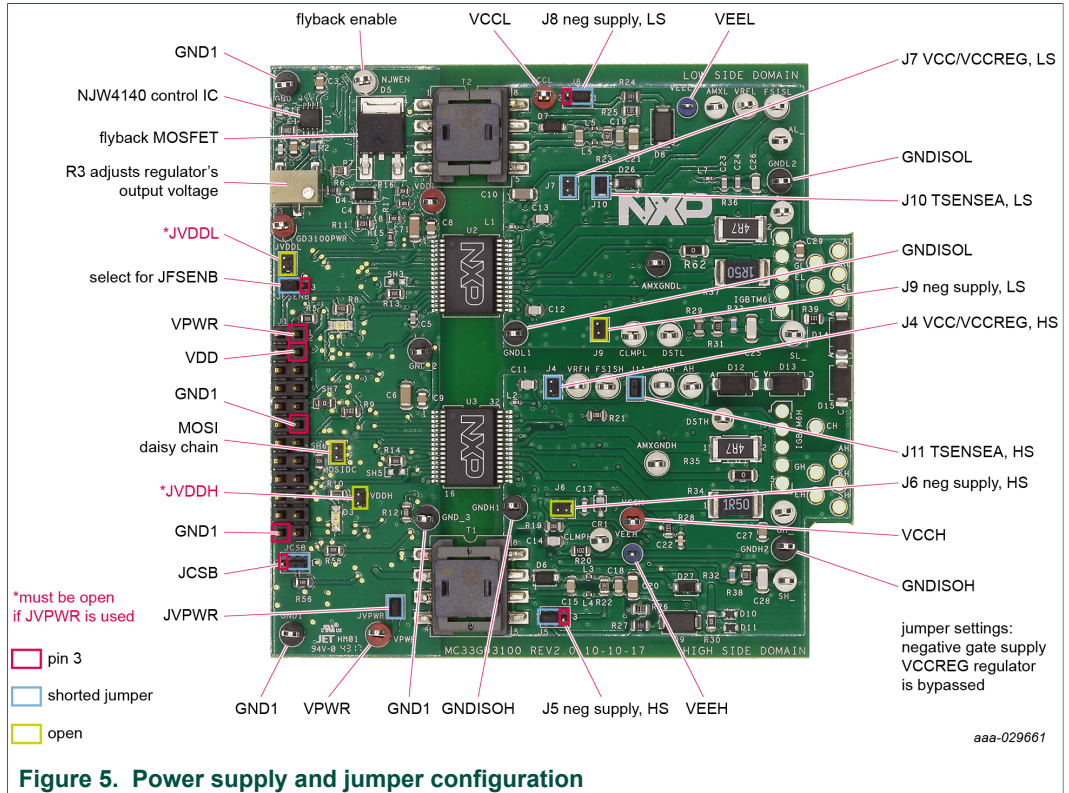
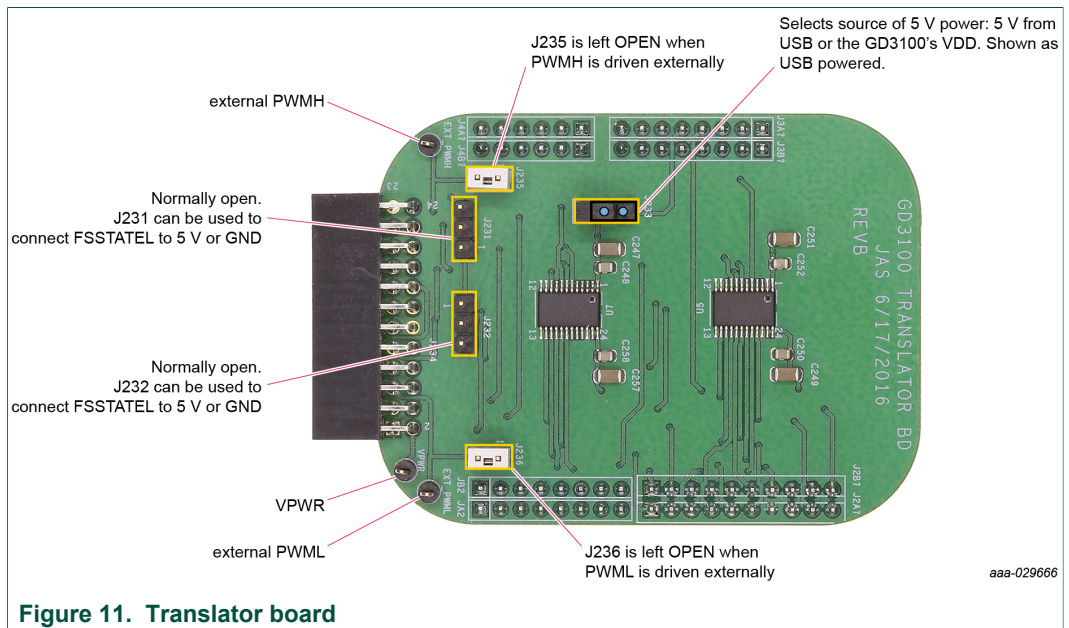

Figure 5. Power supply and jumper configuration
Figure 11. Translator board
3. Check jumper configuration on the evaluation board. The default jumper configuration (shipped from factory) is setup for non-daisy chain SPI communication with high-side and low-side driver domains VEE negative supply level active as described in Figure 5. Also, ensure jumper J233 is populated on Translator board as in Figure 11 for powering KL25Z micro.
- a. If voltage level on VCCH and VCCL are low adjust R3 potentiometer for proper level as shown in Figure 5.
8. To pass an external PWM signal through each gate drive device, remove jumpers J235 and J236 from translator board. Connect external PWM signal to high-side EXT_PWMH or low-side EXT_PWML as described in Figure 11. Gate drive output can be observed on high-side and low-side driver devices on GH_ and GL_ test points respectively.